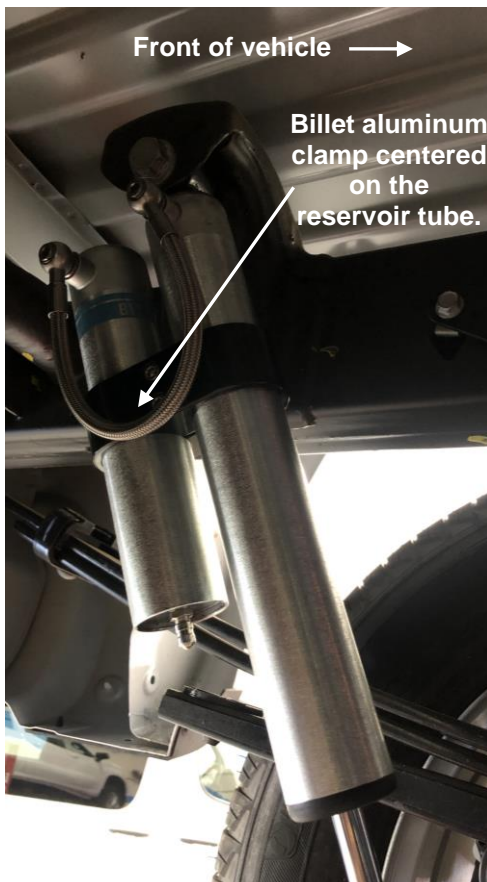

Figure 1. Driver Side
- B. Before installing the shock/reservoir assemblies on the vehicle, use the supplied billet aluminum "piggyback" reservoir bracket to mount each reservoir to its shock body. Position the reservoir for the driver side as depicted in Figures 1 and 2. Position the reservoir for passenger side as depicted in Figures 3 and 4. Ensure the hose is not rubbing against the shock tube in the static position. The hose fittings are designed to swivel and will allow the reservoir and hose to be easily moved.